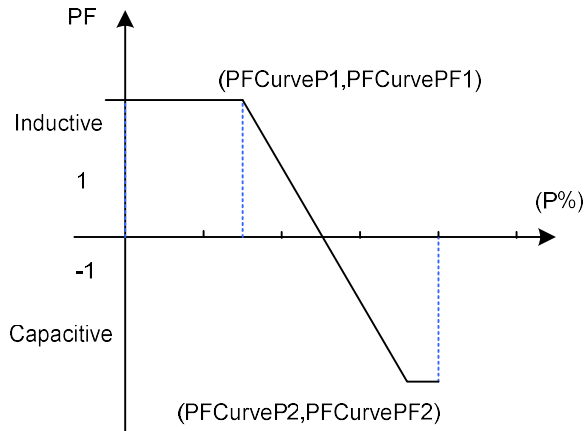

Figure 5-16 PF(P) Curve Model
- (1) **PF Set**: Set the PF value. Change the reactive power by adjusting the Power Factor.
- (2) **PF(P) Curve**: PF curve mode. The power factor changes according to the power change, as shown in **Figure 5-16**.